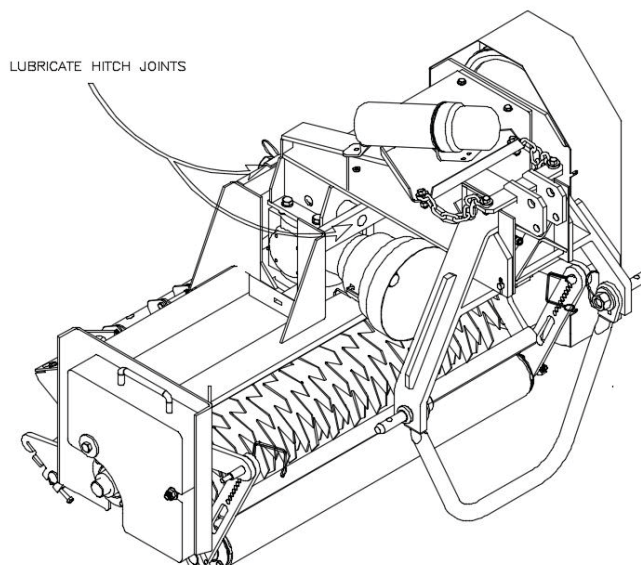

Figure 6. *Lifting Hook/Lubrication*
- When not attached to the tractor, always use the lifting hook to hoist the machine on to safety blocks for maintenance. (See Figure 6).
- The hitch flex joints at the top of the “A” frame and above the gearbox (Fig. 6) should be lubricated before first operation and weekly thereafter.